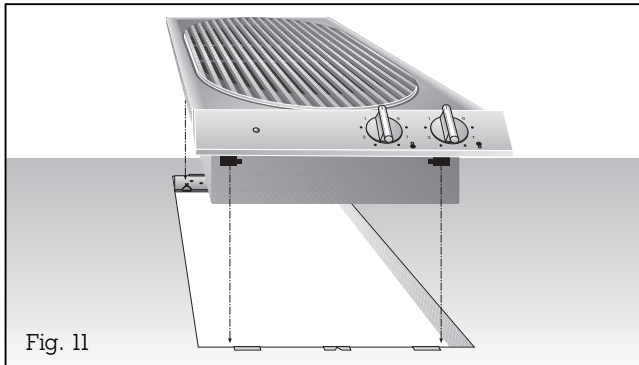

Fig. 11
– **Lower the appliance into the worktop.** Make sure that the engaging lugs on the appliance lie exactly on the clamping springs. Press the appliance firmly into the worktop. The engaging lugs on the appliance “snap” into the clamping springs in the securing rails (Fig. 11).